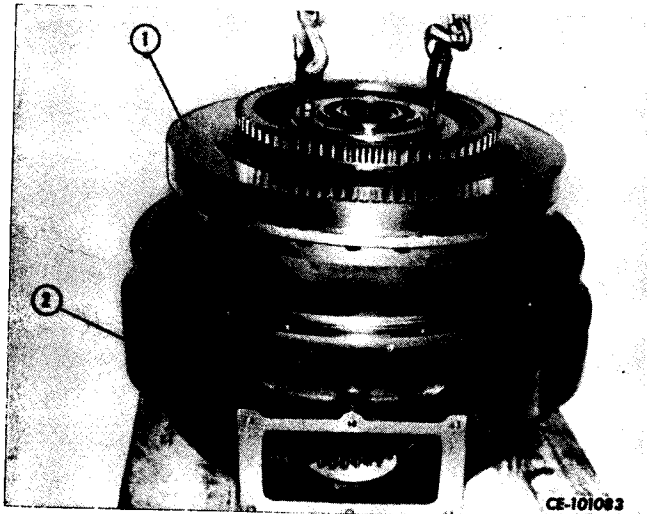

Figure 3-19
Using a suitable hoist, lift converter assembly (1, Fig. 3-19) from converter housing (2).